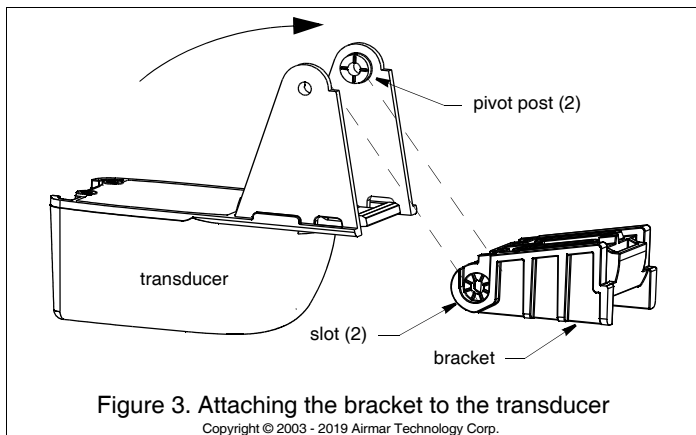

Figure 3. Attaching the bracket to the transducer
1. Insert the transducer's pivot posts into the slots in the back of the bracket (Figure 3).